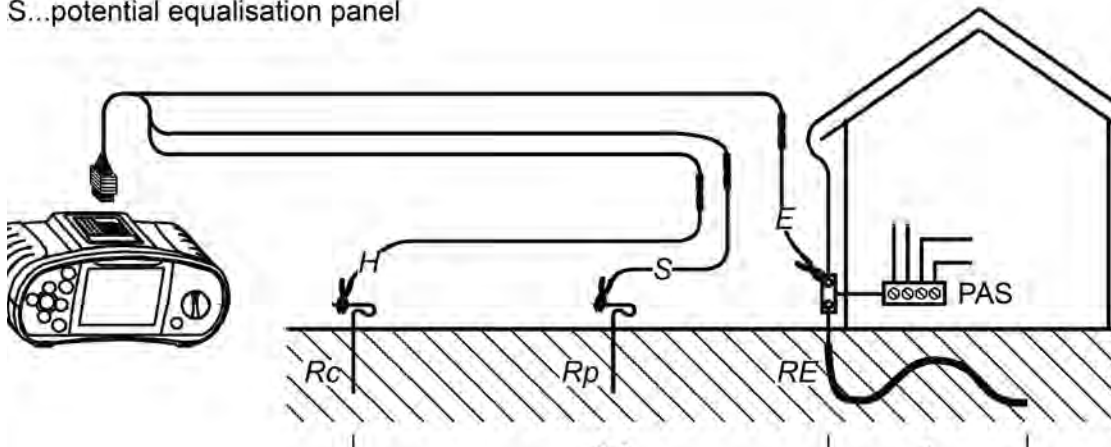

Fig. 5.45: Measurement with the earthing set – 20 m
- The probe (S) is positioned between the earth electrode (E) and auxiliary earth electrode (H) in the earth reference plane (see figure 5.45).
- The distance from the earth electrode (E) to the auxiliary earth electrode (H) must be at least 5 times the depth or length of the earthing electrode rod (see fig. 5.45).
Step 3 Follow the connection diagram shown in figure 5.45 to perform resistance to earth measurement. Use the Help function if necessary.